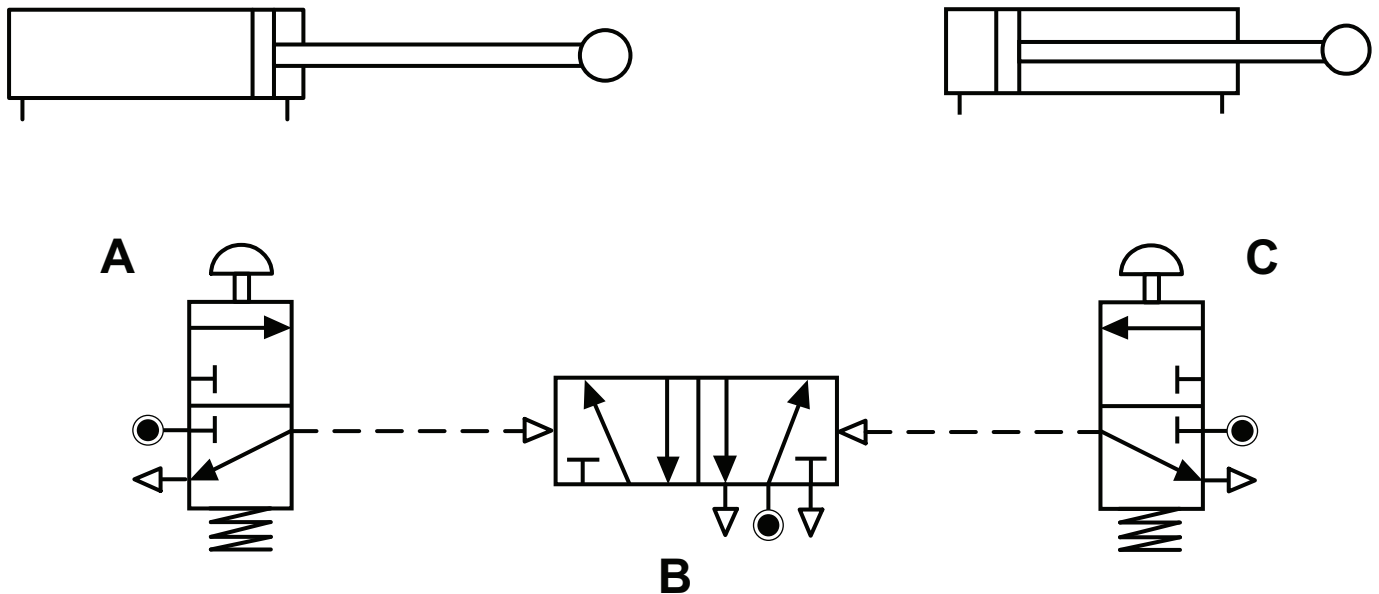

Fig. 4
(d) **Fig. 4** shows two pneumatic cylinders which are controlled by valves **A**, **B**, and **C**.
- (i) Complete the circuit in **Fig. 4** to operate this sequence showing all the connecting pipes.